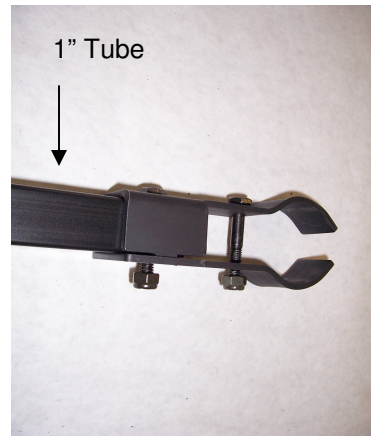

Fig. 3
5. Put the Sky Bar in position and place the half clamps on either side of your roll bar and insert a 1/4 x 1 3/4" bolt through the pre-drilled holes. (Use hole A) Tighten just enough so the clamps will stay on the roll bar. Repeat on the other end of the Sky Bar. (Fig. 3 & 4)